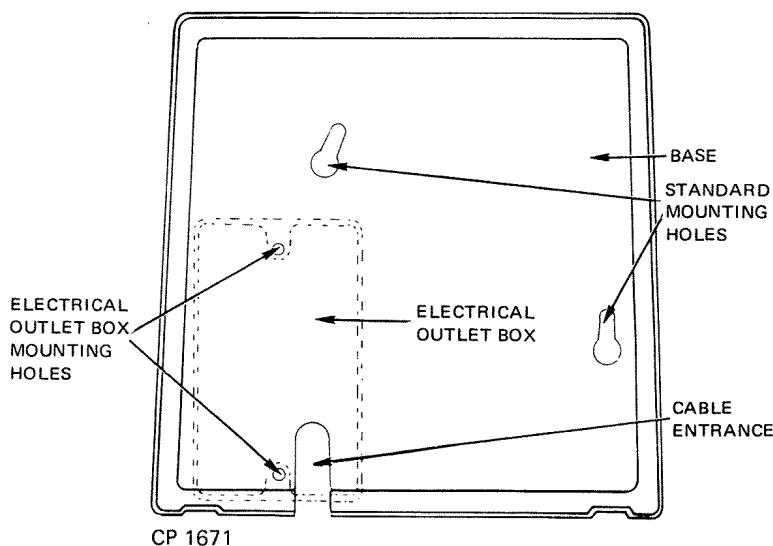

Figure 3. Mounting Holes for S-C 1800 and 2810 Series Telephones
The S-C 1810 and 2810 series, wall rotary-dial and TONE-DIAL, 11-line telephones can be mounted directly on a wall or on a standard electrical wall outlet box. Telephone mounting hole locations are shown in figure 3.
2. Using telephone base plate as a template, mark position of mounting holes on wall (fig. 3).
2. Using mounting holes shown in figure 3, secure telephone base to electrical outlet. Normally, screws are provided with electrical box. If not, use round-head screws of proper thread size.
2. Bring line cord cable into telephone through cable entrance (fig. 3).